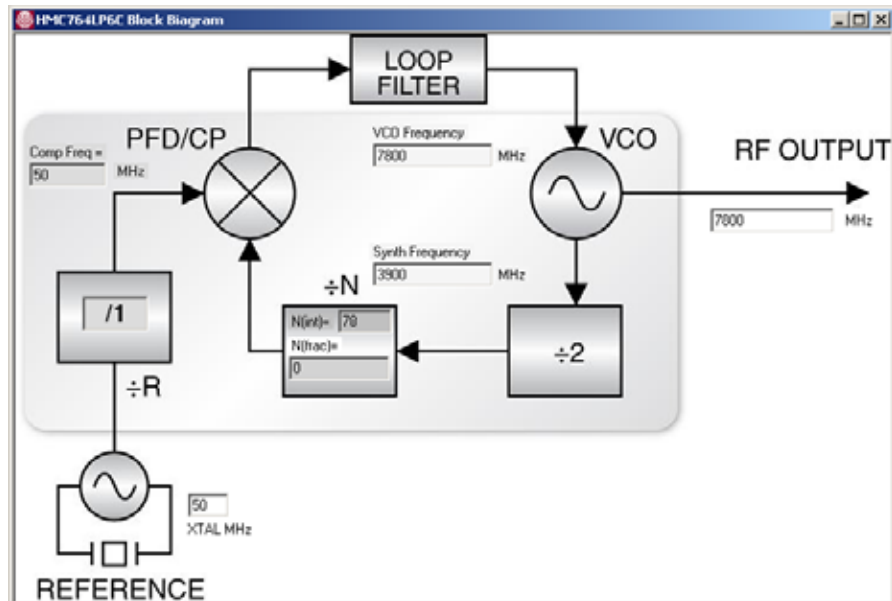

Figure 12. PLL with Integrated VCO Block Diagram
**Step 8.** Click “HMC PLL with Integrated VCO Block Diagram” button, the block diagram pops out as Figure 12 shown (optional to show the configuration but step not required to run the part).